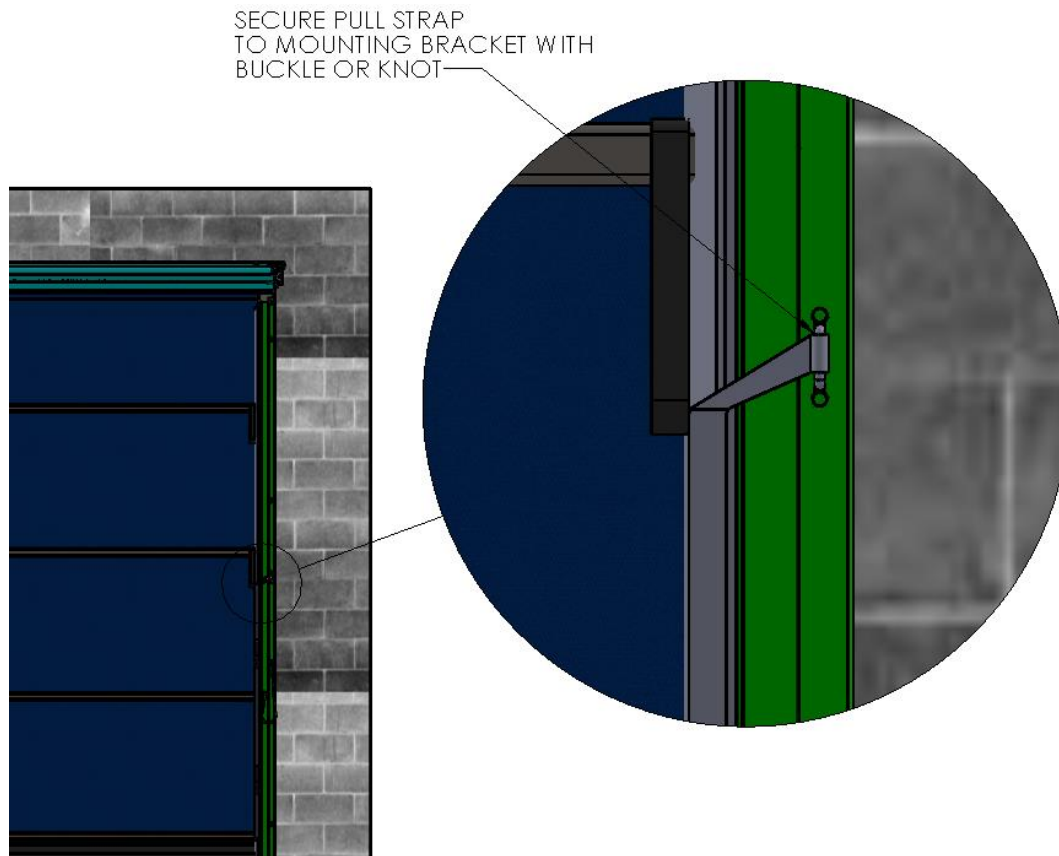

Figure 12 SECURE PULL STRAP
1. Use the Buckle provided to secure the long Pull Strap to the mounting Bracket attached to the Right-Side Track. (Figure 12 SECURE PULL STRAP)